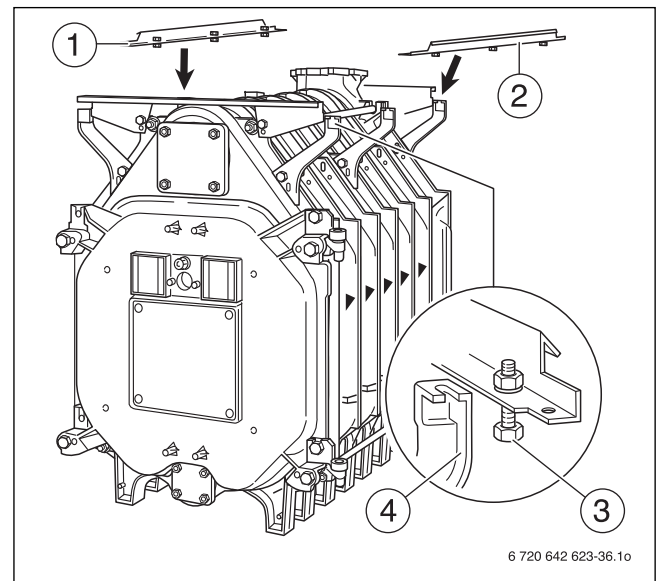

Fig. 38 Installing the longitudinal rails
- ▶ Place the longitudinal rails (→ Fig. 38, [1 and 2]) on both brackets on the rear and front section.
- ▶ Push longitudinal rails with pre-fitted screws (→ Fig. 38, [3]) into the notches in the brackets (→ Fig. 38, [4]) and screw together.